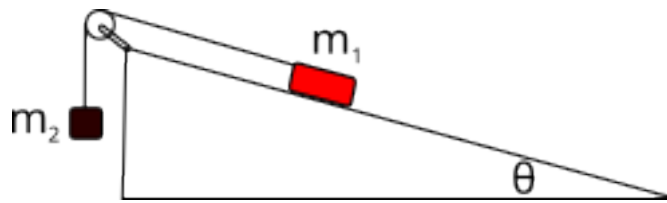

Figure 1: Set-up for the inclined semi-Atwood experiment.
1. Your set-up should consist of the ioLab cart on an incline with a string from the cart running over a pulley to a hanging mass as shown in Figure 1 above.